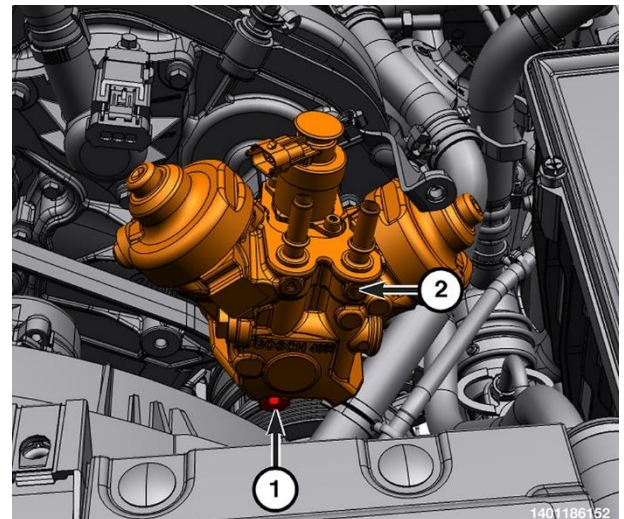

Figure 194 – HPFP Lower Bolt
38. Remove the fuel injection pump lower bolt (1) and the fuel injection pump (2) (Figure 194).